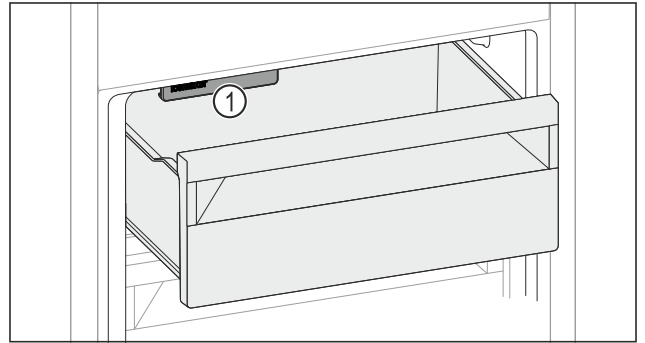

Fig. 111
- ▶ Huomioi IceMaker Fig. 111 (1).